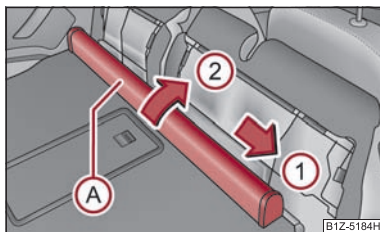

Fig. 78 Rear seats: Luggage net partition housing
- Push the luggage net partition housing (A) ⇒ fig. 78 in the direction of arrow ① and take it out of the mount of the rear seats in the direction of arrow ②.